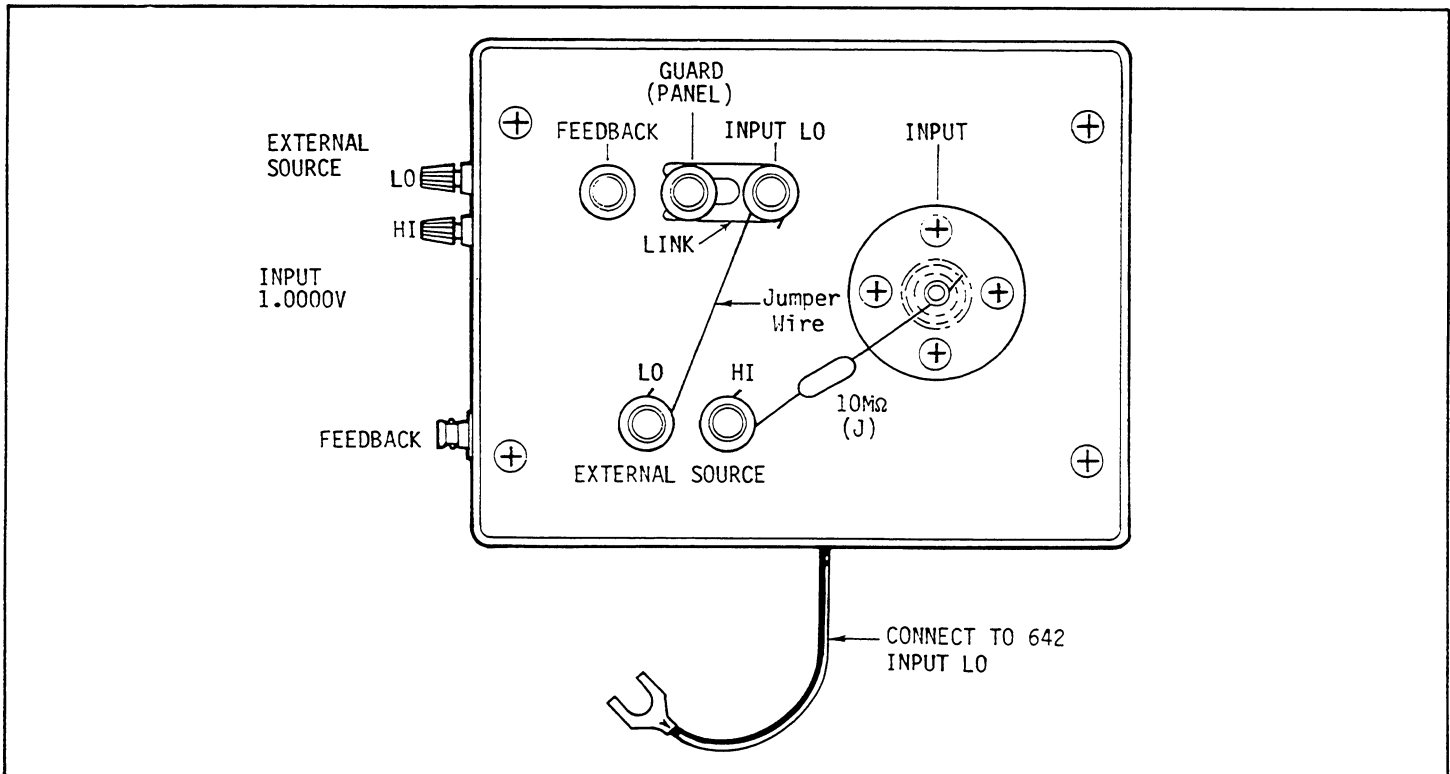

FIGURE 6-1. 10^{-7} A Current Source Using Model 6426 Sapphire Test Box
a. Mount the Model 6426 Sapphire Test Box (Item A Table 6-1) on to the 642 remote head. Connect the $10\text{M}\Omega$, 0.1% resistor (Item J) from the EXTERNAL SOURCE HI binding post to the INPUT binding post, and connect a wire from the EXTERNAL SOURCE LO binding post to the INPUT LO binding post. Connect the black wire that is attached to the test box, to the INPUT LO binding post on the remote head. (See Figure 6-1.) Close the lid of the test box.
b. Apply +1.0000V to the EXTERNAL SOURCE input of the Sapphire Test Box using the DC Calibrator (E).